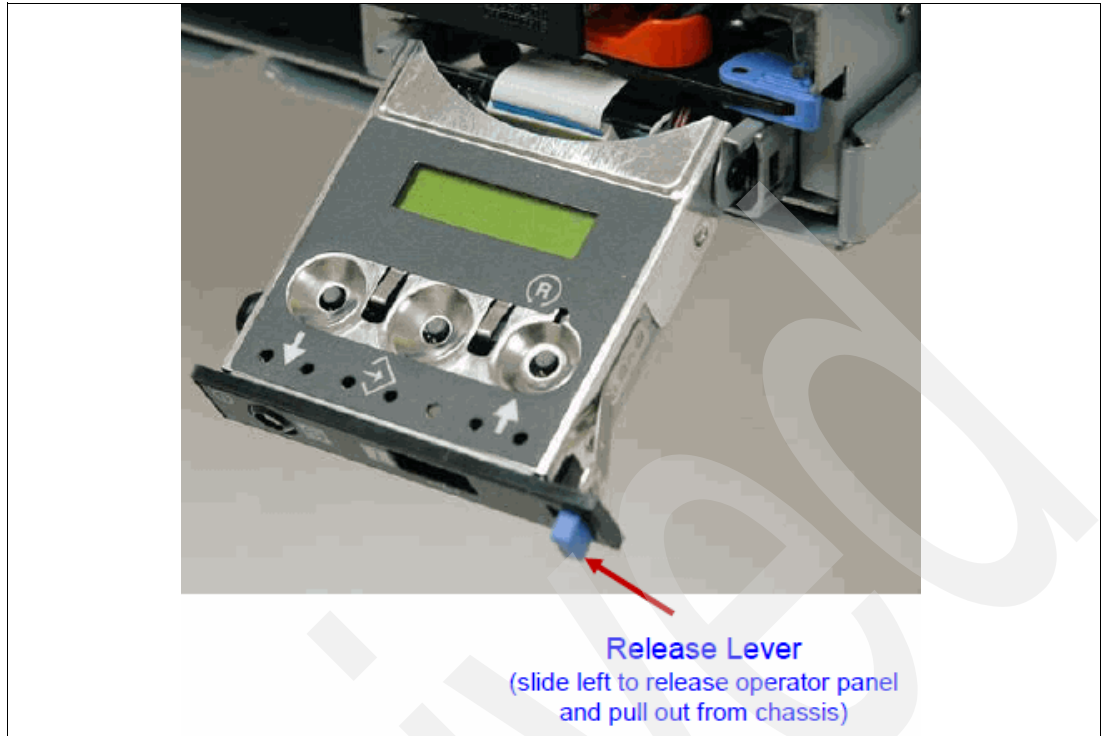

Figure 4-7 Operator panel is pulled out from the chassis
- ▶ By pulling it out to access the switches and view the LCD display. Figure 4-7 shows that the operator panel on a Power 770 and 780 is pulled out.